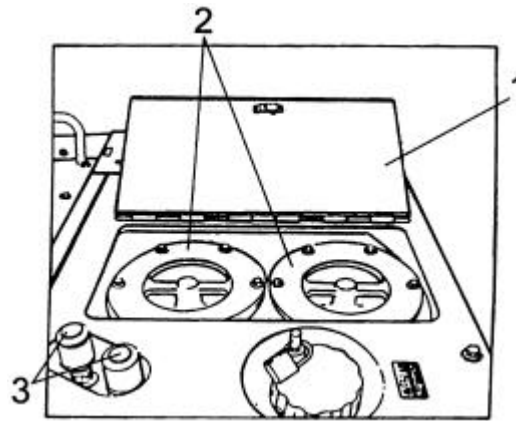

Fig. 5.49. Hydraulic Reservoir Oil Filters
4. Open access cover 1, Fig. 5.49.
9. Remove reservoir covers 2, Fig. 5.49.
2. Remove reservoir covers 2, Fig. 5.49.
8. Install reservoir covers 2, Fig. 5.49.